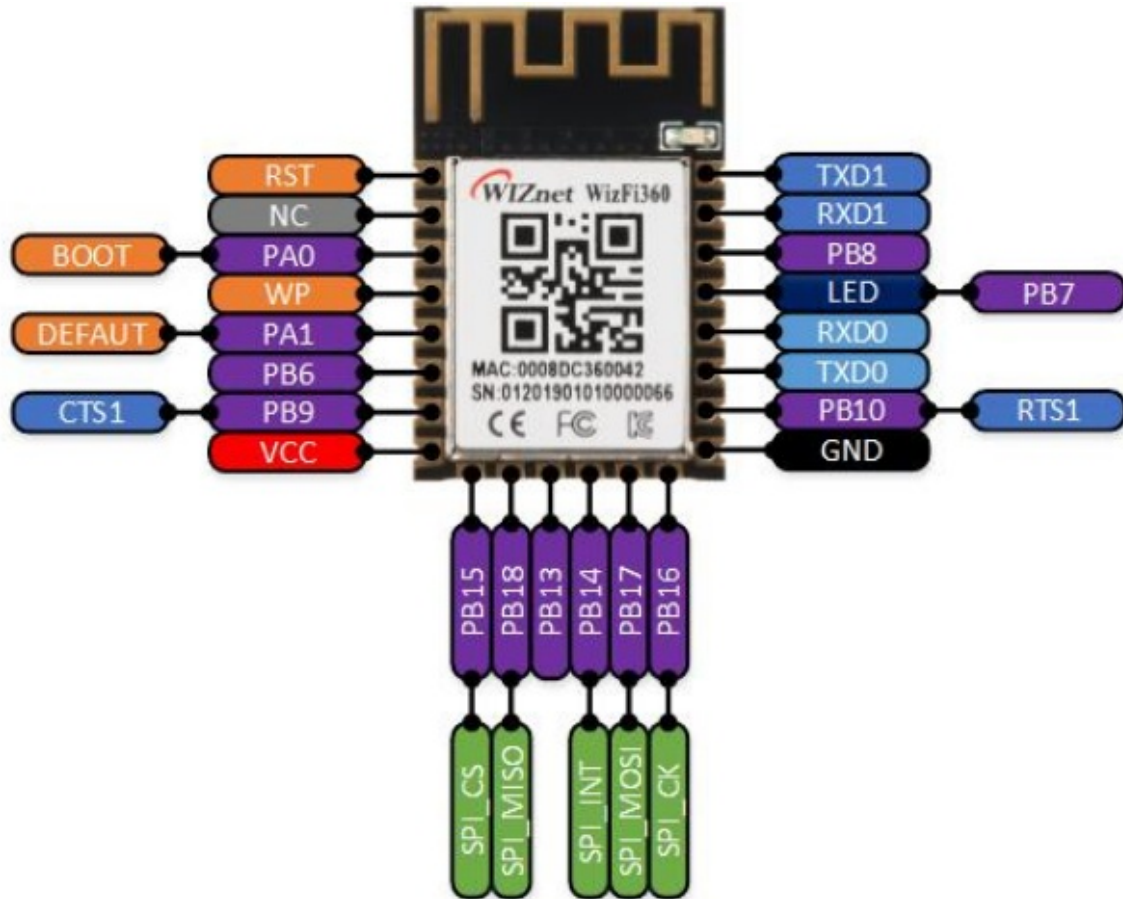

Figure 1. WizFi360 Pinout
- 6 SPI pins are from PB13 to PB17 in the below Figure 1. WizFi360 Pinout.4 SPI Frame Format
The WizFi360 operates in SPI slave mode and can be controlled via AT commands. To communicate with the MCU, the SPI pins must be connected, and the SPI\_EN(PB13) pin must be set to Low for SPI. Refer to Figure 1 in the WizFi360 Pinout section to locate the SPI pins. When the SPI\_INT(PB14) pin is set to low, the SPI master can read the received data.
The SPI pins are located from PB13 to PB17 as shown in Figure 1 in the WizFi360 Pinout section.
WizFi360 operates in SPI slave mode and can be controlled via AT commands. In order to communicate with the MCU, the SPI pins must be connected and set the SPI\_EN(PB13) pin to Low for SPI. Refer to Figure 1. WizFi360 Pinout to locate the SPI pins. If the SPI\_INT(PB14) pin is set to low when WizFi360 has received data, the SPI master can read the data.
SPI pins are from PB13 to PB17 in the below Figure 1. WizFi360 Pinout.